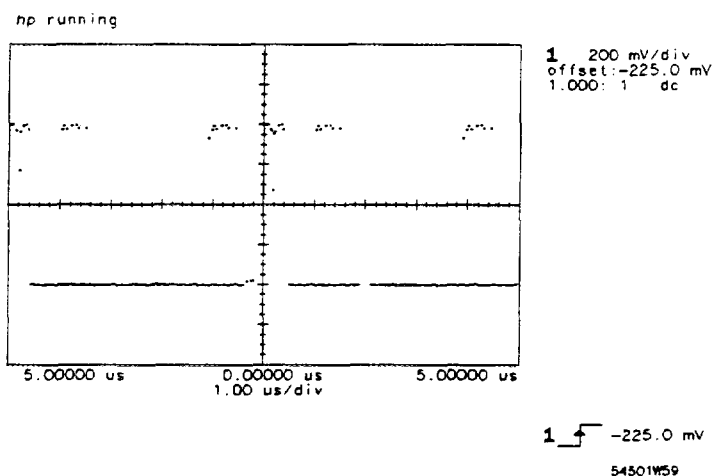

Figure 6-2. Two-Burst Waveform after Autoscale
- Press AUTOSCALE (see Figure 6-2).